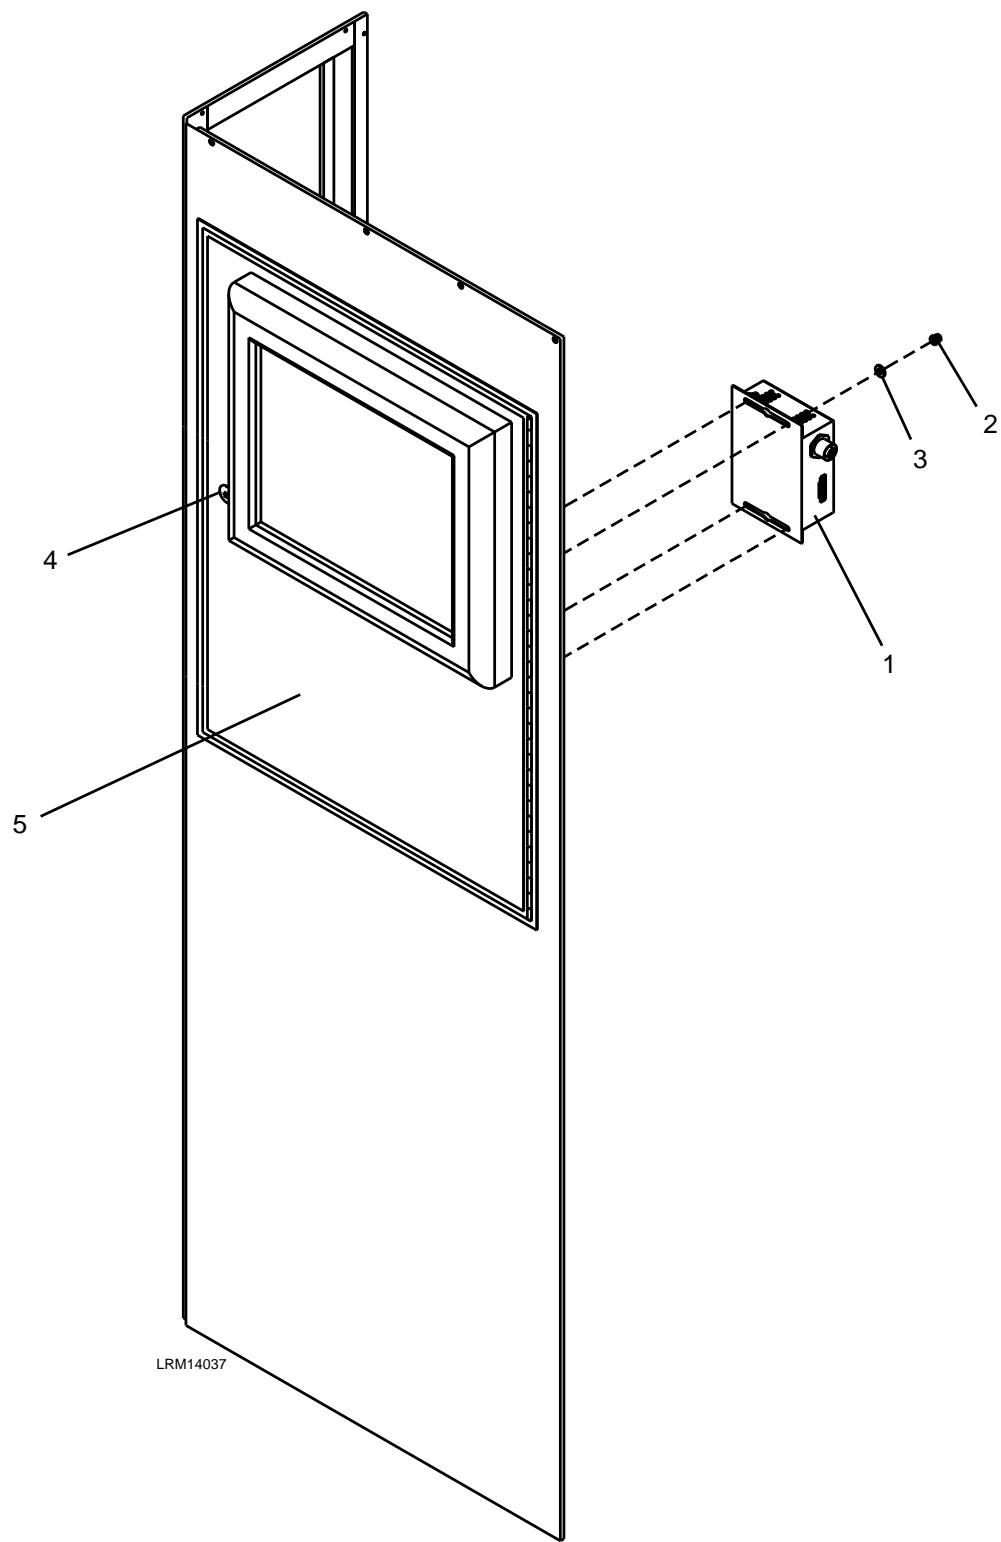

Figure 8-6: VGA Extender Receive Unit
1. Unlock the single lock (4) and open the locker door panel (5) to access the VGA Extender Receive Unit (1) hardware and disconnect the electrical connections using a Torque Screwdriver for the M12 connections. See Figure 8-6.
2. Remove the four M4 hexagon nuts (2) and M4 plain washers (3).
3. Carefully remove the VGA Extender Receive Unit (1).